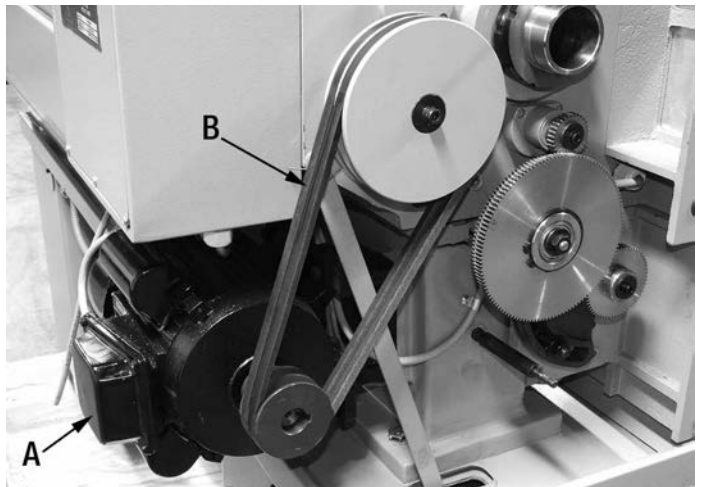

FIGURE 24
- 2) Loosen the 4 hex. bolts which secure the motor (A) Fig.24 to the motor bracket. This will allow you to raise the motor to remove tension on the V-belts (B). Raise motor and retighten hex. bolts.